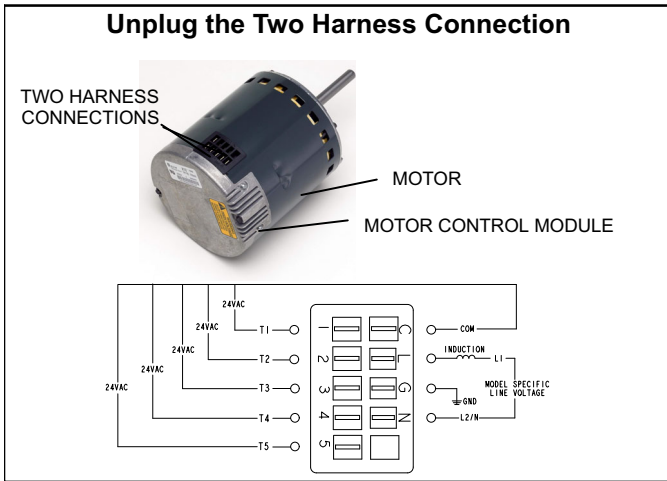

FIGURE 17
3. Unplug the **two** harnesses from the motor control module. See figure 17.